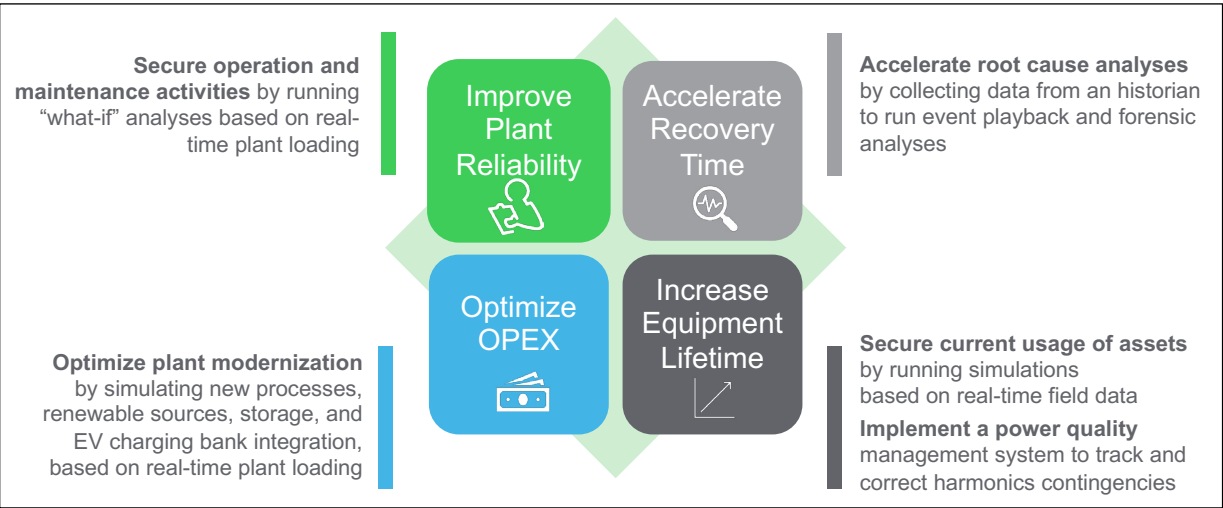

Figure 15. Real-time capabilities of connecting an electrical system digital twin to real-time data for the fab's electrical distribution system
Step 3: Conduct power system simulation: Optimize and secure operations and maintenance in real time. This step involves connecting the digital twin to real-time measurements and topology to evaluate actual system response to operator actions. This can facilitate predictive simulations (“what-if” scenarios), operator training simulation, and “validate-before-operate” capabilities. Figure 15 provide more ways that this capability can be used.